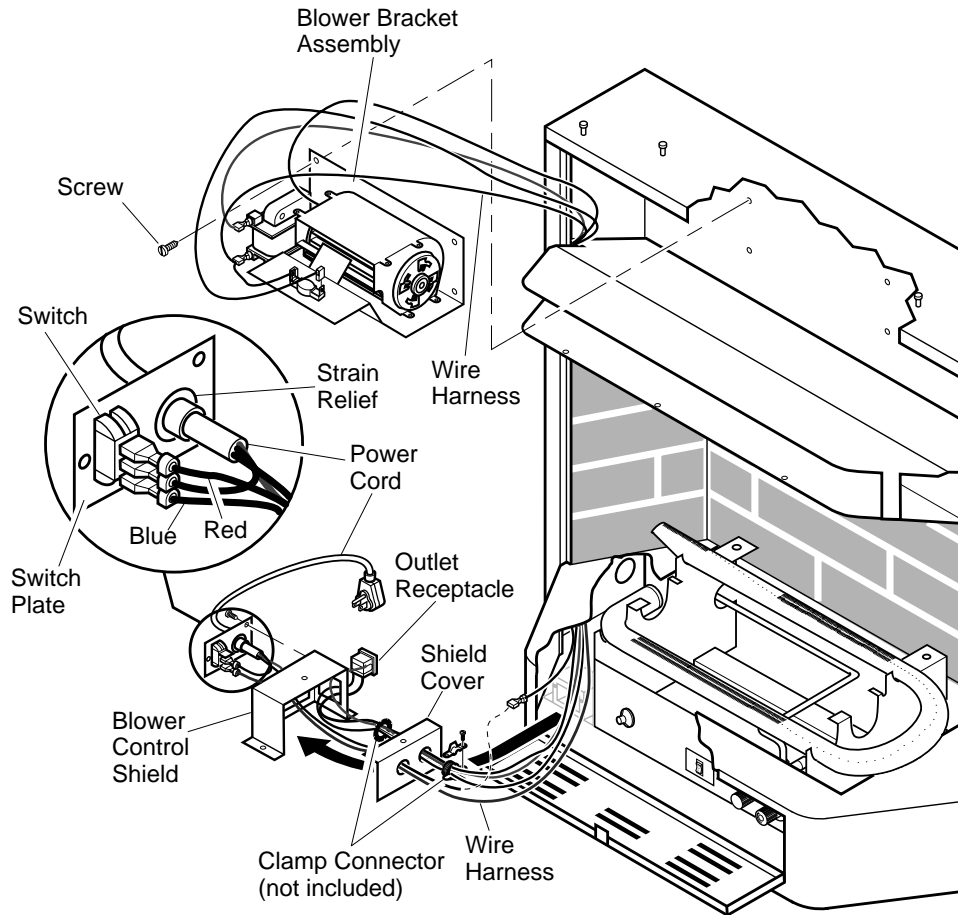

Figure 18 - Installing Blower Bracket Assembly
3. Remove black plastic strain relief and power cord from switch plate (see Figure 18). The power cord supplied will not be used in built-in installations. Pop in the plastic snap bushing found in hardware kit into the hole left by supply cord/strain relief.